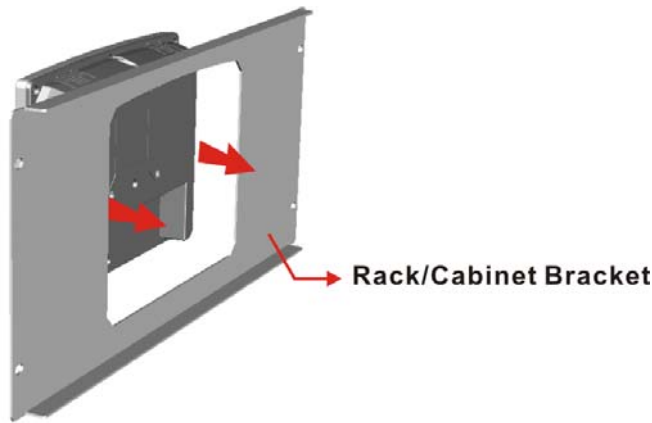

Figure 3-16: The Rack/Cabinet Bracket
- Step 1:** Slide the rear of the PPC-5152-D525-E panel PC through the rack/cabinet bracket until the aluminum frame is flush against the front of the bracket (Figure 3-16).